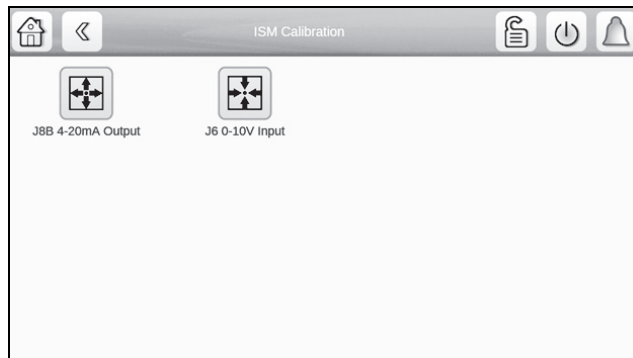

Fig. 45 — ISM Calibration Screen
- Go to **Main Menu → Maintenance Menu → ISM Calibration**. See Fig. 45.